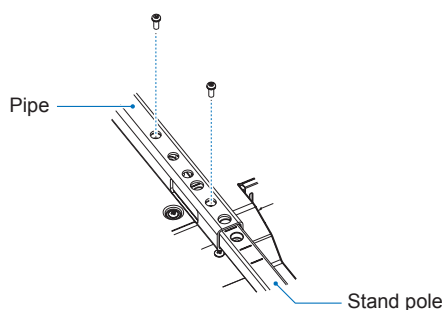

Figure 2
2. Please install the stand pole and the pipe with included screws. Please screw the two screw holes at the pipe (**Figure 2**).